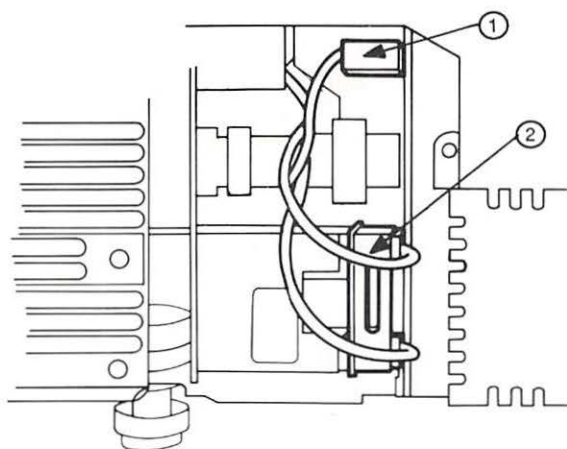

FIGURE 2-16: HIGH VOLTAGE POWER SUPPLY
5. Disconnect the two connectors with thick red wires (see Figure 2-16, #1 and #2 -- one has two wires, the other has one) from the High Voltage Power Supply (use a screwdriver to help pry them off).